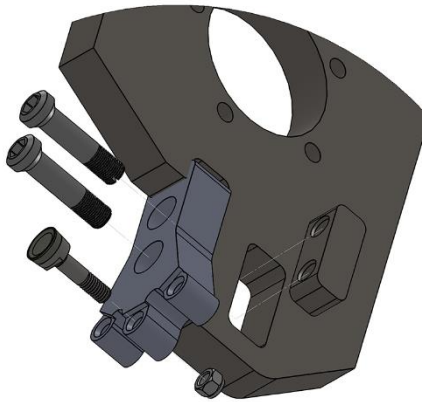

Figure 3.1
5. Loosely install *Quadwheel*[®] holders and mounting blocks to the wheel. Insert *LoPro*[®] bolts lubricated with *Green-Seize*[™] or equivalent lubricating compound. Torque the wheel holder bolts evenly until you've reached 180 ft. lbs. (240ft. lbs. dry) on each bolt. (Figure 3.1)
6. Install *Greenteeth*[®] on all holder positions and torque to 35 ft. lbs. (Figure 3.1)